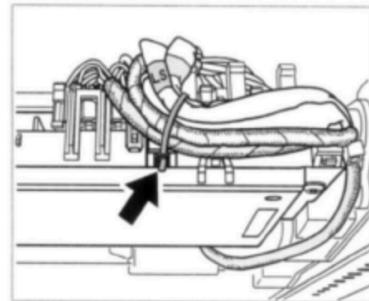

Figure 4
- 5 **At the front** of the control unit, open the tie-wrap (⇒ *Figure 4 -arrow-*) for the wire connection and remove it.